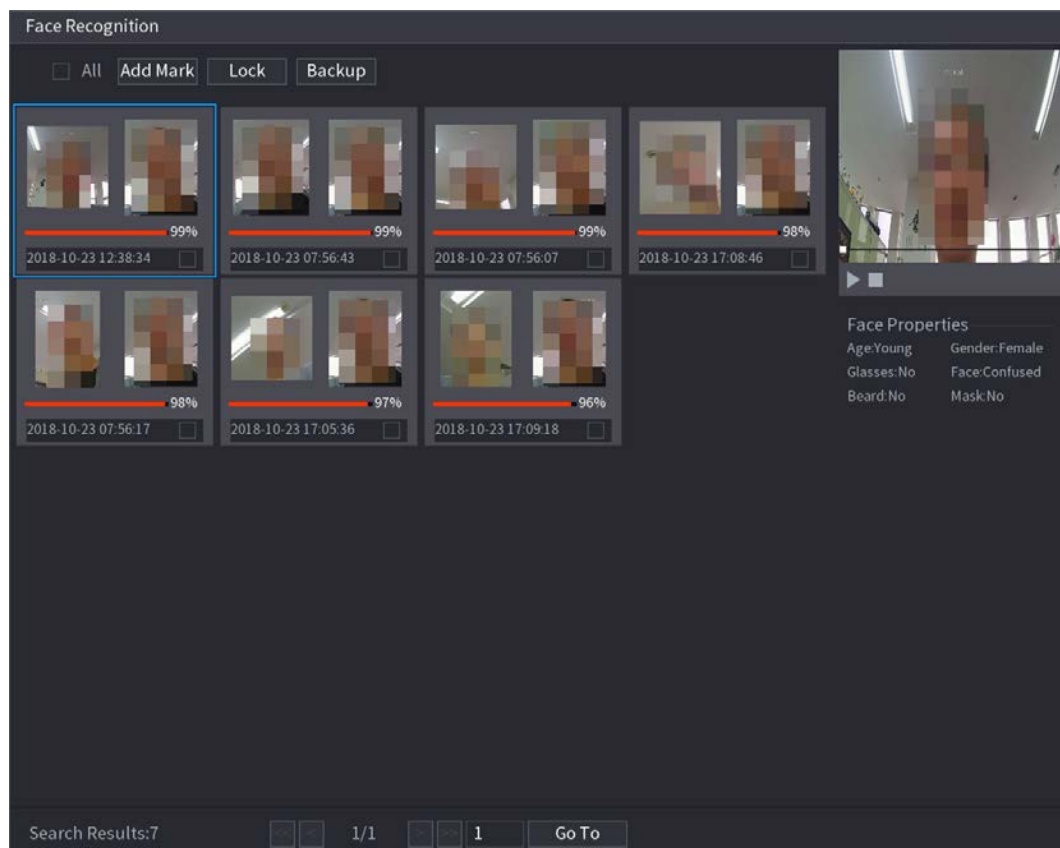

Figure 5-162
Step 5 Select the face picture that you want to play back. See Figure 5-162.